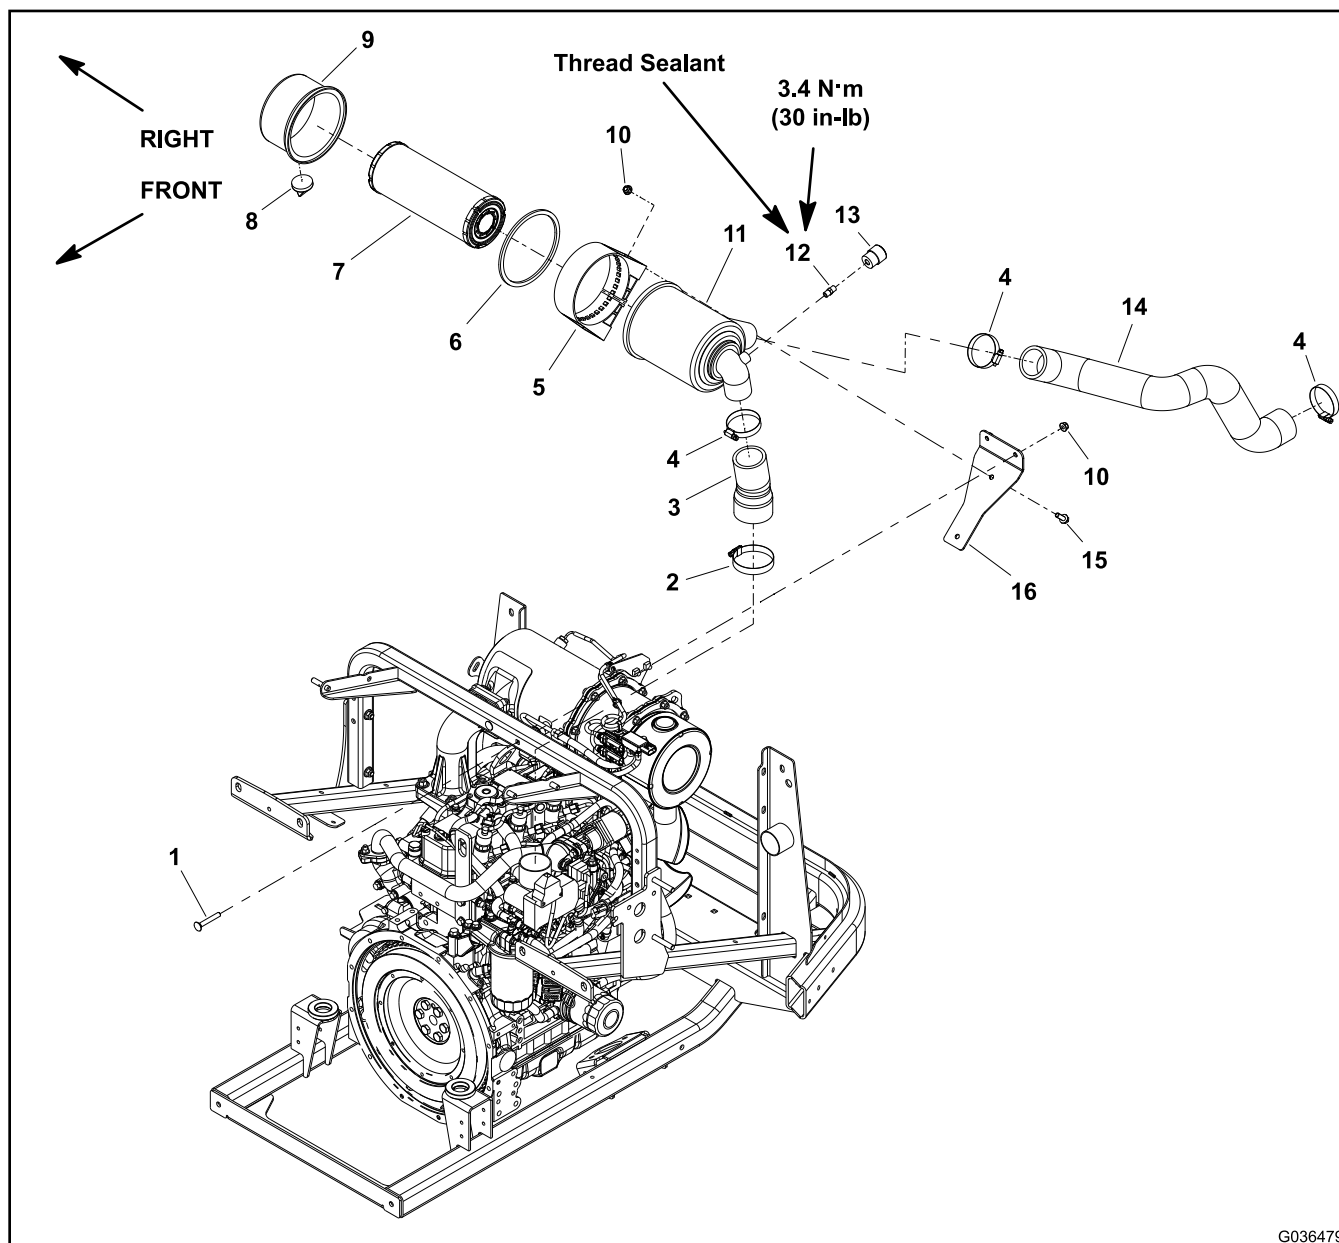

Figure 8
3. Remove the air cleaner components as shown in Figure 8.
4. Examine the air cleaner housing and cover (items 11 and 9 in Figure 8) for wear or damage that could cause possible air leaks.
1. Assemble the air cleaner system as shown in Figure 8.
- A. Ensure that the vacuator valve (item 8 in Figure 8) is pointed down after installation.
- B. If the service indicator (item 13 in Figure 8) or pipe nipple were removed from the housing, apply sealant to the threads of the nipple, torque the nipple to **3.4 N·m (30 in-lb)**, and install the service indicator onto the nipple.